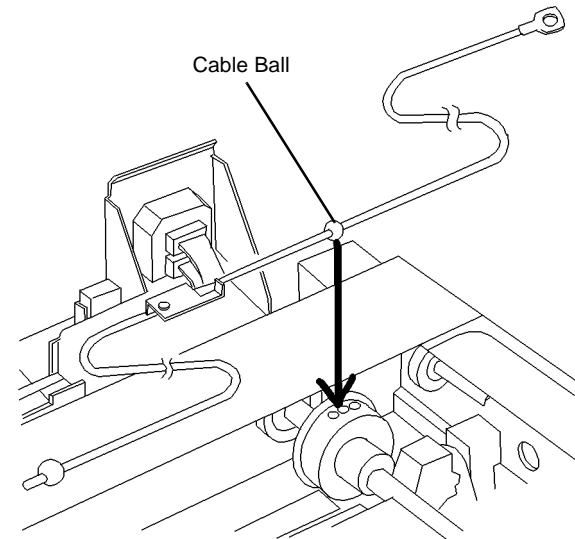

Figure 4 Winding Carriage Cable
- a. Orient the cable as shown and insert the middle Carriage Cable Ball into the detente in the Capstan (Figure 4).